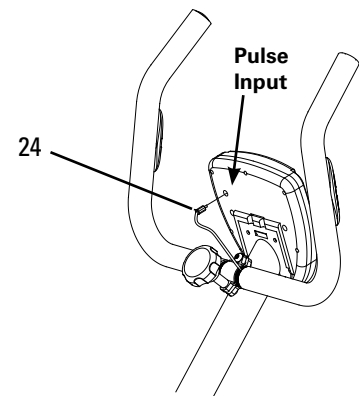

Figure 4A
4-2: Connect Heart Rate Wire (24) to the female jack (Pulse Input) located on the back of the Console (6) as shown in Figure 4A.